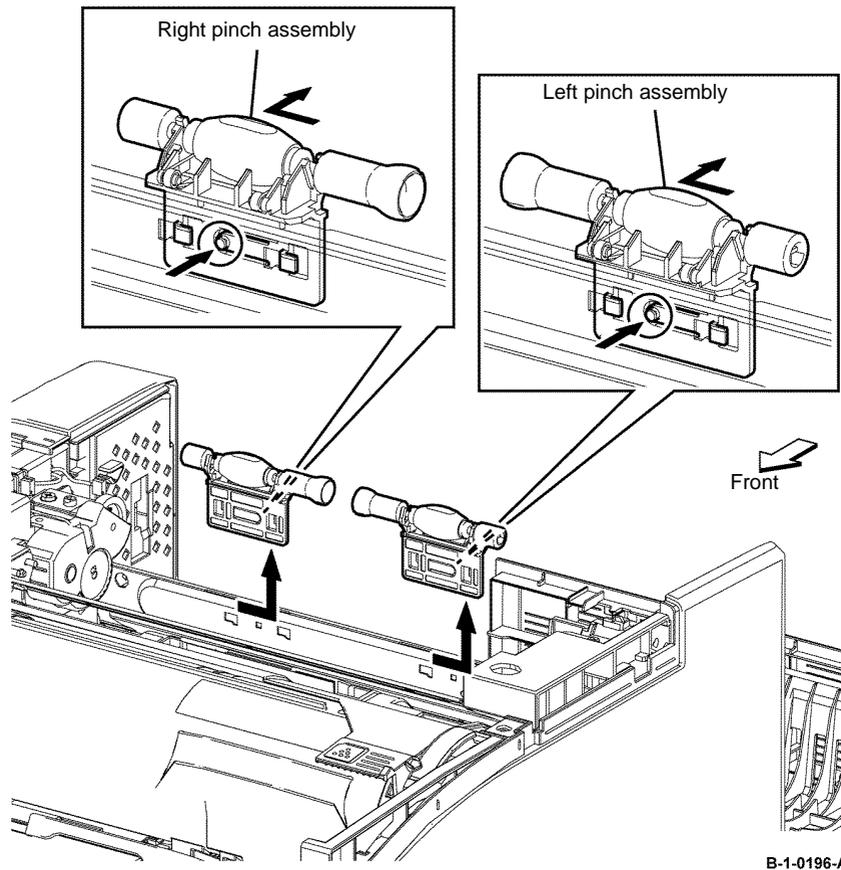

Figure 1 Left and right pinch assembly removal
8. Release the hooks, then remove the left and right pinch assemblies, Figure 1.